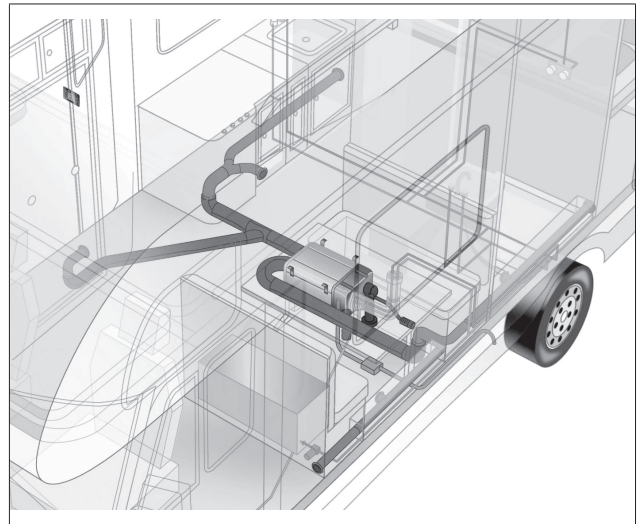

Fig. 24 Hot air distribution
1. Connect 76 in (80 mm) hoses to the housing cover with hot air outlet and secure them with screws to prevent them from becoming detached during temperature changes (see Fig. 2 and Fig. 24).